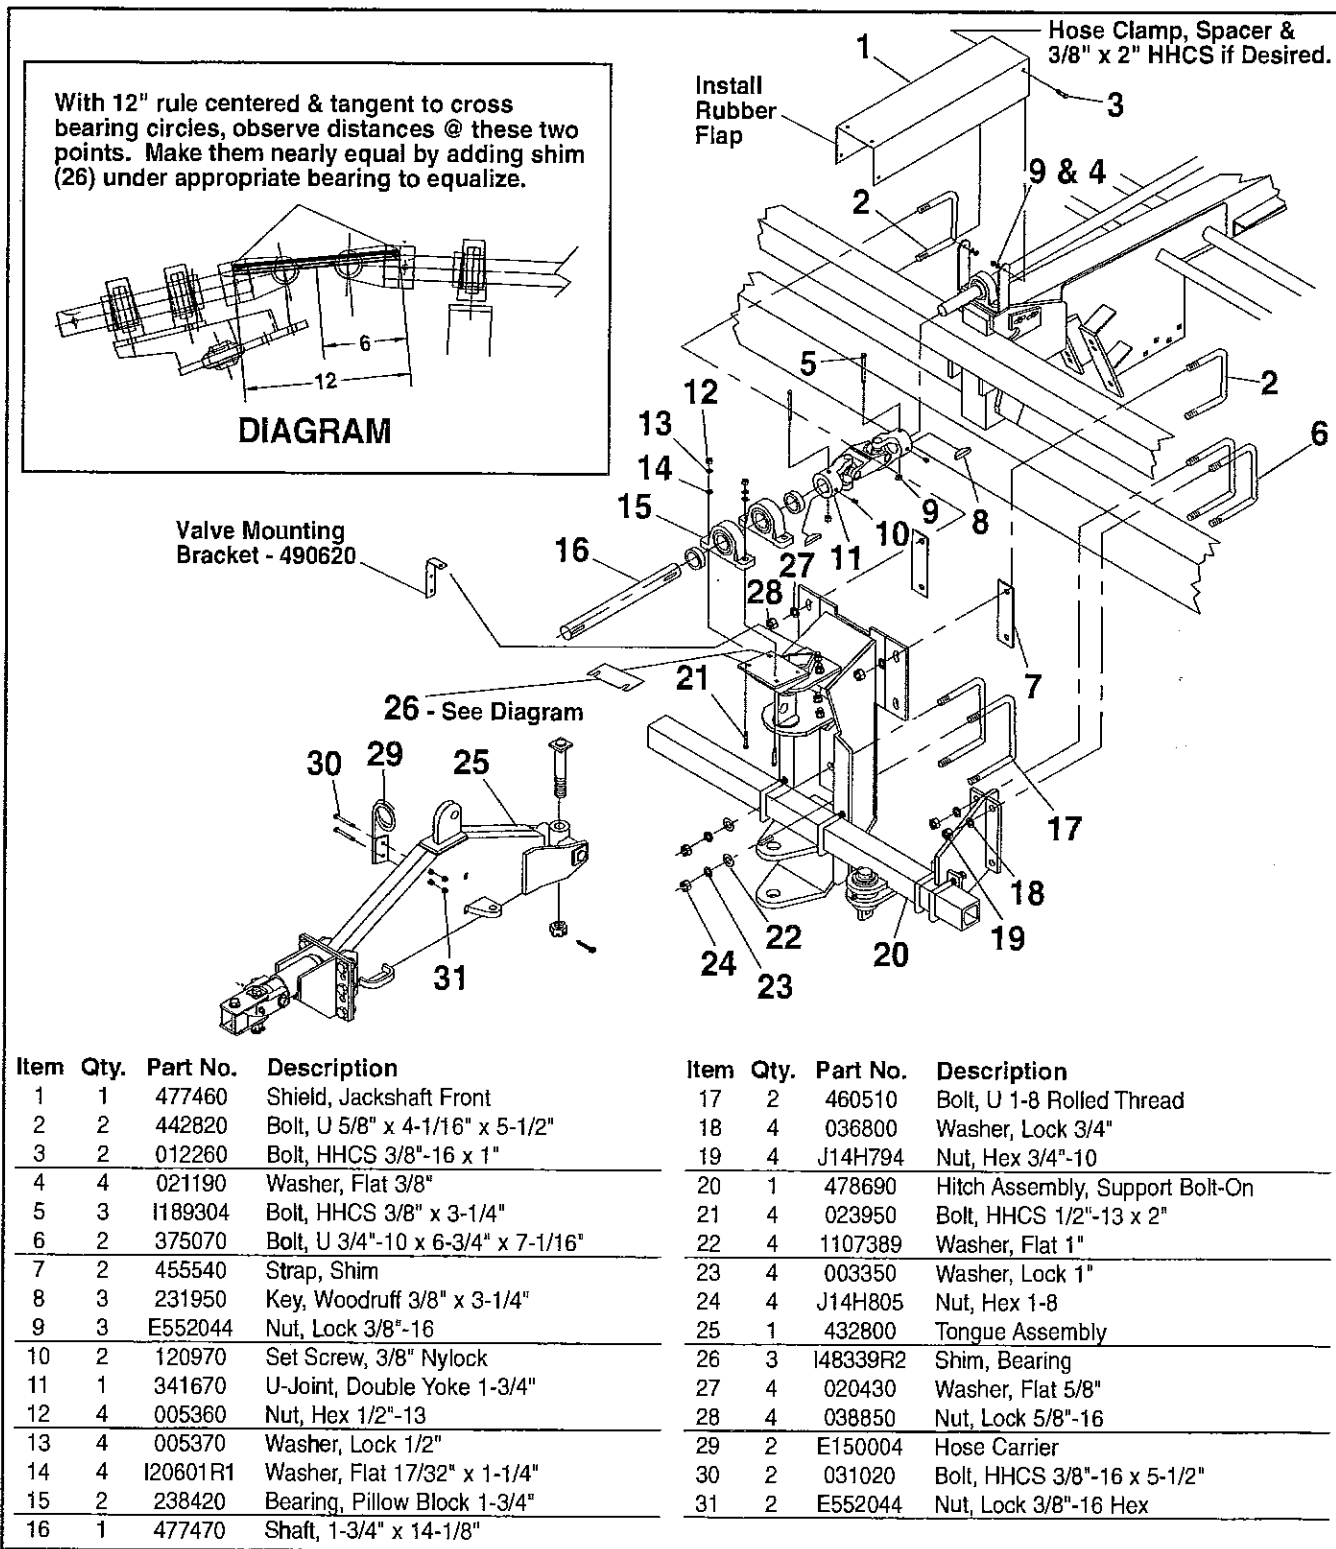
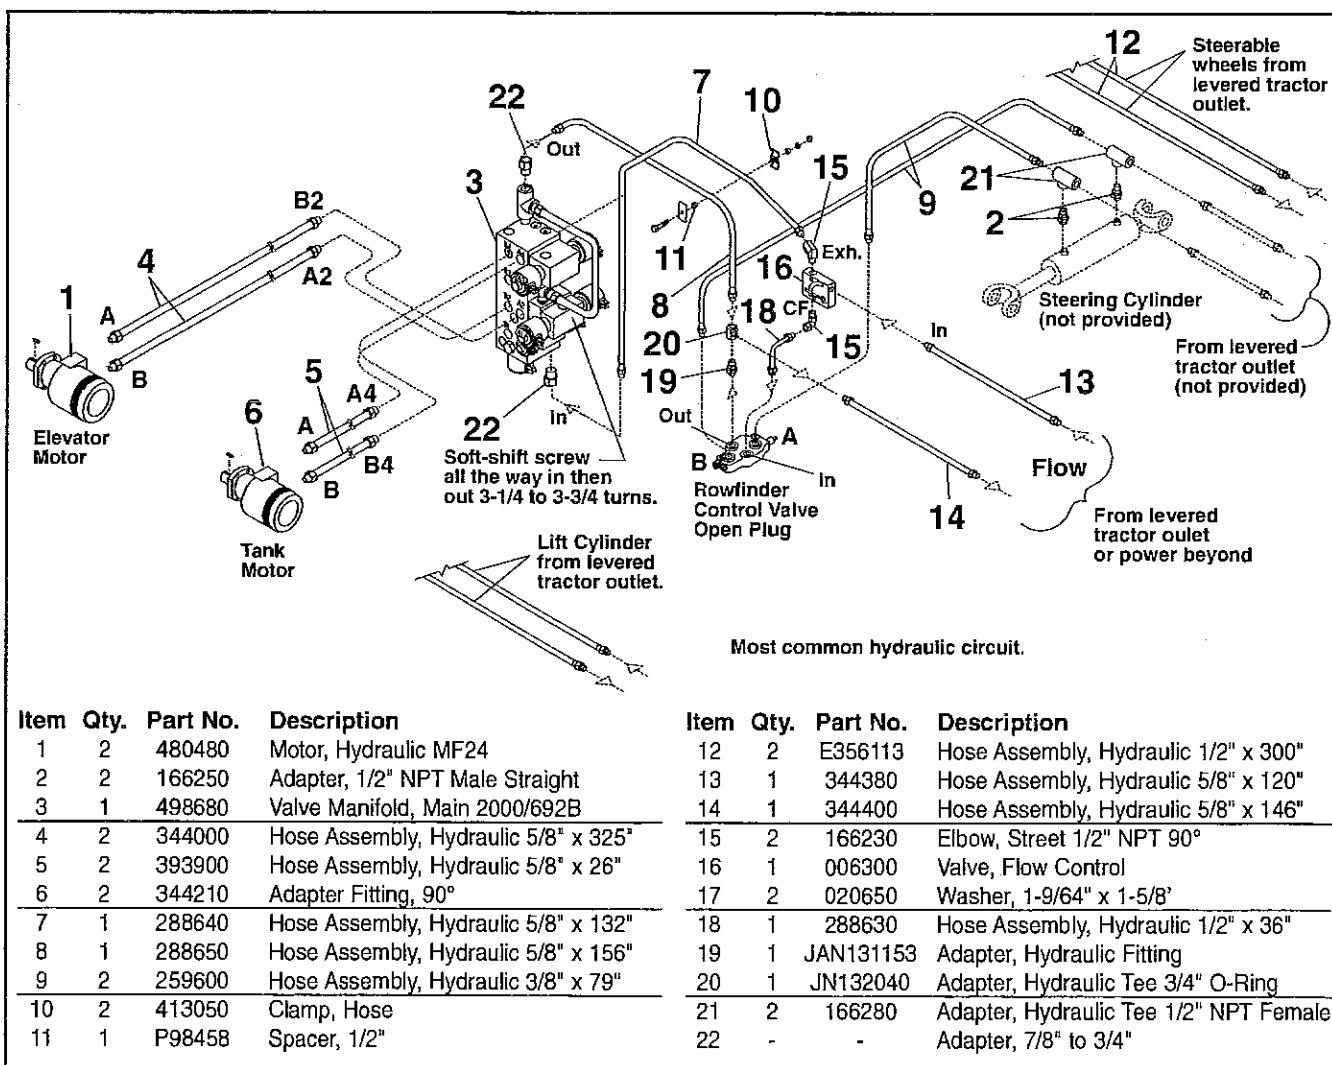
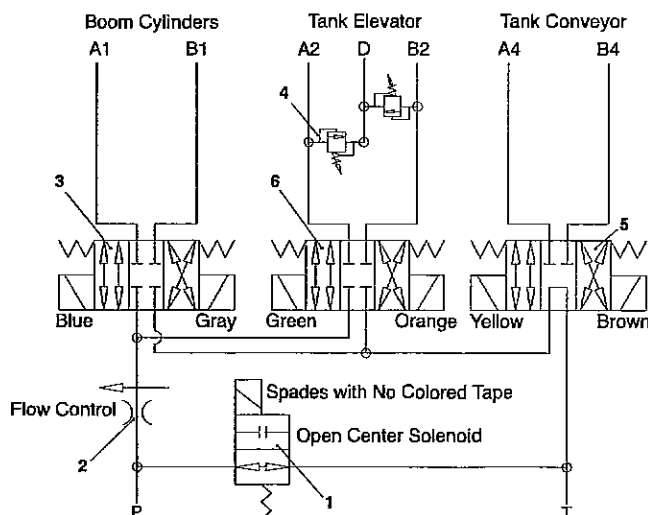

Figure 3.18: Hitch Assembly
Figure 3.20: Hydraulic Circuit.
Figure 3.24: Main Valve, Schematic Diagram.
See Figure 3.18, lift hitch support assembly (20) into position and prepare to install exactly on center of the center frame. The rowfinder tube should be in the left
Install jackshaft extension, (see Figure 3.18). Install double u-joint (item 11) onto jackshaft using key, set screw, bolt and nut shown. Install two (2) bearings (item 15) and short jackshaft (item 16), into other end of double u-joint using hardware shown.
Most tractor hydraulic systems are PFC type systems and can be plumbed as shown in Figure 3.20. If tractor is a true closed system plumbing must be modified to operate on this system.
Install elbows to flow control valve (item 16) and attach to support bracket (refer to item 490620 Figure 3.18). Install 36" hydraulic hose (item 18) from flow control valve CF port to "IN" port on rowfinder valve. (See Figure 3.20).
Install two (2) hose assemblies (132" and 156", items 7 and 8) from the valve assembly on the tank to the out ports on rowfinder and flow control valve as shown (see Figure 3.20). Install hydraulic hoses (120" and 146", items 13 and 14) in rowfinder valve and flow control valve as shown and route through hose carrier on hitch to tractor.
elevator belt chain drive can be switched to load into the truck or into the harvester tank. When switching from truck loading to tank loading or vice versa, a soft shift screw action is built in to the valve to cushion the reversal (see note Figure 3.20).
3. See Figure 3.24 for schematic diagram of main valve, ensure the hoses from the boom elevator to the main valve are connected as shown in Figure 3.20. Note that the A and B ports of the valve are to be connected to the A and B ports of the hydraulic motors. See note.